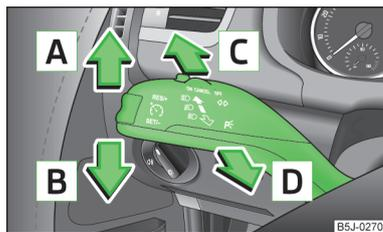

Fig. 42
- At the same time, pull the turn signal light stalk » Fig. 42 on page 57 towards the steering wheel, push it downwards, and hold it in this position.
- At the same time, pull the turn signal light stalk » Fig. 42 on page 57 towards the steering wheel, push it upwards, and hold it in this position.
Control stalk positions » Fig. 42.
- › Pull the turn signal stalk » Fig. 42 on page 57 upwards or downwards - the side light on the right or left side of the vehicle is switched on.